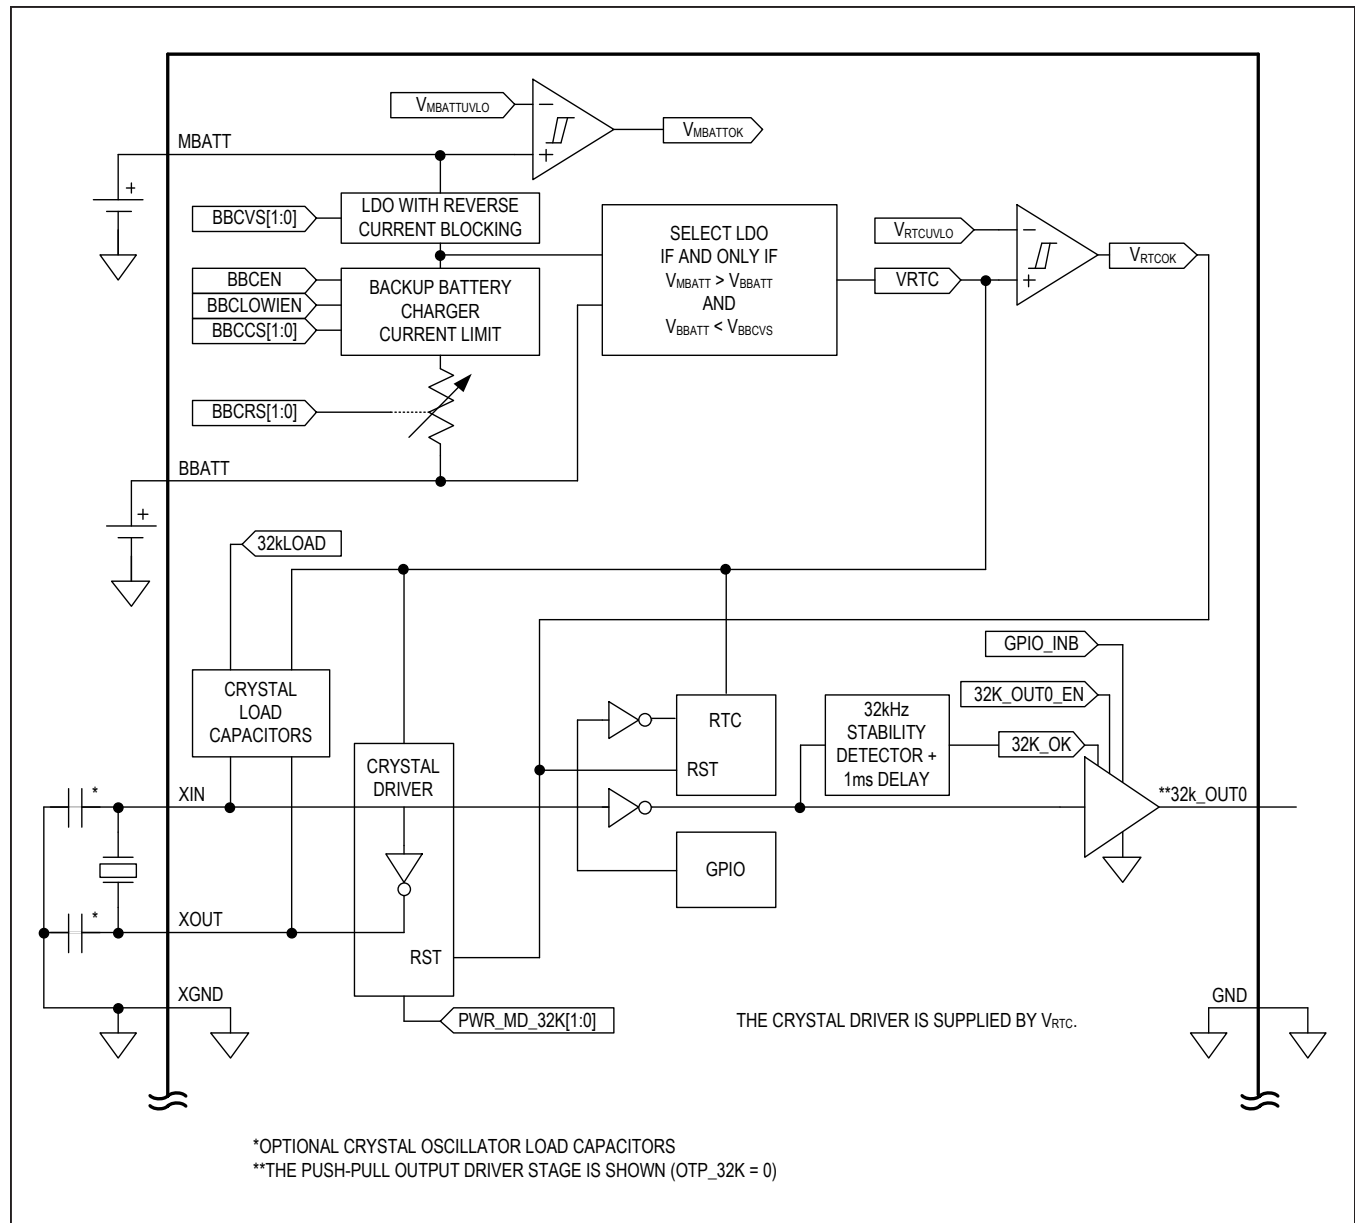

Figure 14. Backup Battery Charger, 32kHz Crystal Oscillator and RTC
The IC contains a crystal oscillator driver with internal load capacitance selectable by 32KLOAD[1:0] (Figure 14). PWR\_MD\_32K controls whether the crystal driver is in low-power mode or low-jitter mode. In low-power mode, the oscillator quiescent current is 1.5μA and in low-jitter mode the cycle-by-cycle jitter is 15ns. The crystal driver is supplied from the internal  $V_{RTC}$  node which is equal to  $V_{MBATT}$  if  $V_{MBATT} > V_{MBATTUVLO}$ .
The backup battery charger is a constant voltage (CV) and constant current (CC) style charger with a series output resistance as shown in Figure 14. The backup battery charger is enabled and disabled with BBCEN. The charge current, charger voltage, output current, and output resistance are adjustable with the BBCCTRL register. The backup-battery charger is suitable for the following types of backup cells: